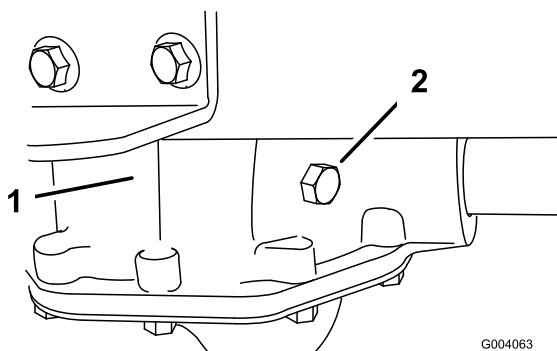

Figure 30
2. Remove the check bolt on the transaxle (Figure 30).